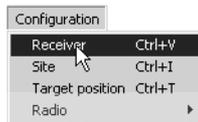

Figure 2-1. Configuration->Receiver
2. Once connected, click **Configuration->Receiver** (Figure 2-1).